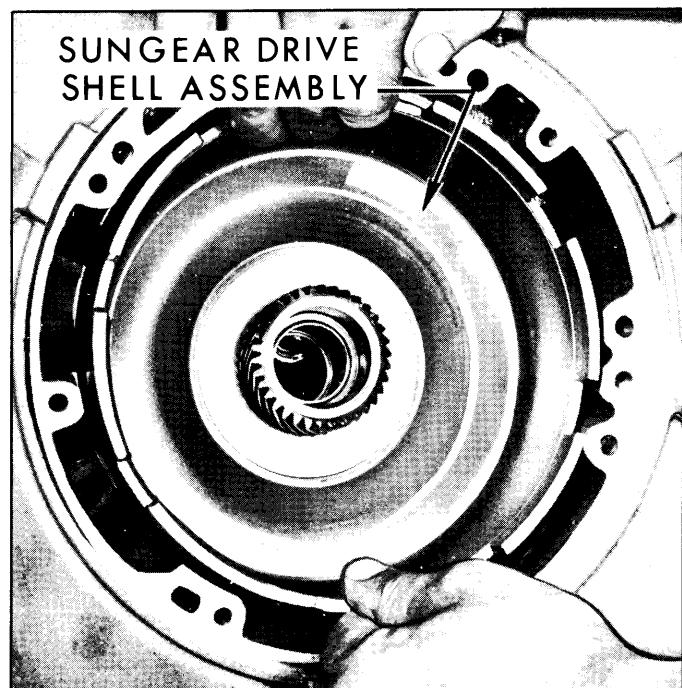

Fig. 7-44—Removing Sun Gear Drive Shell
12. Remove sun gear drive shell assembly. (Fig. 7-44)